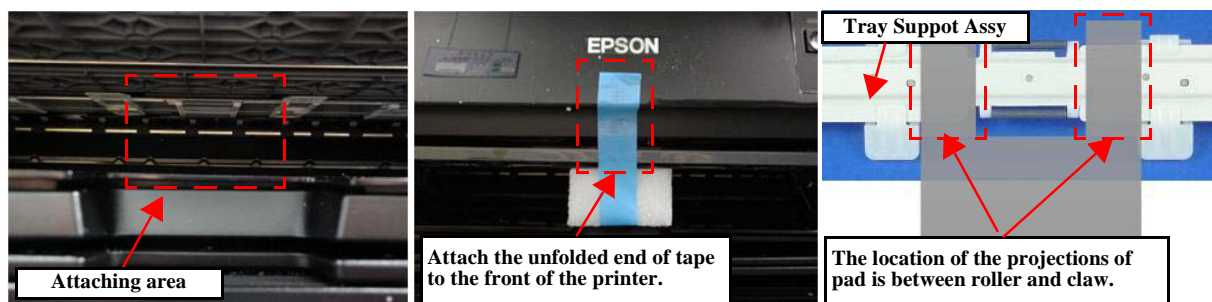

Figure 1-4. Attaching the front tray support pad
2. Attach the front tray support pad to the front of the printer shown in Figure 1-4.